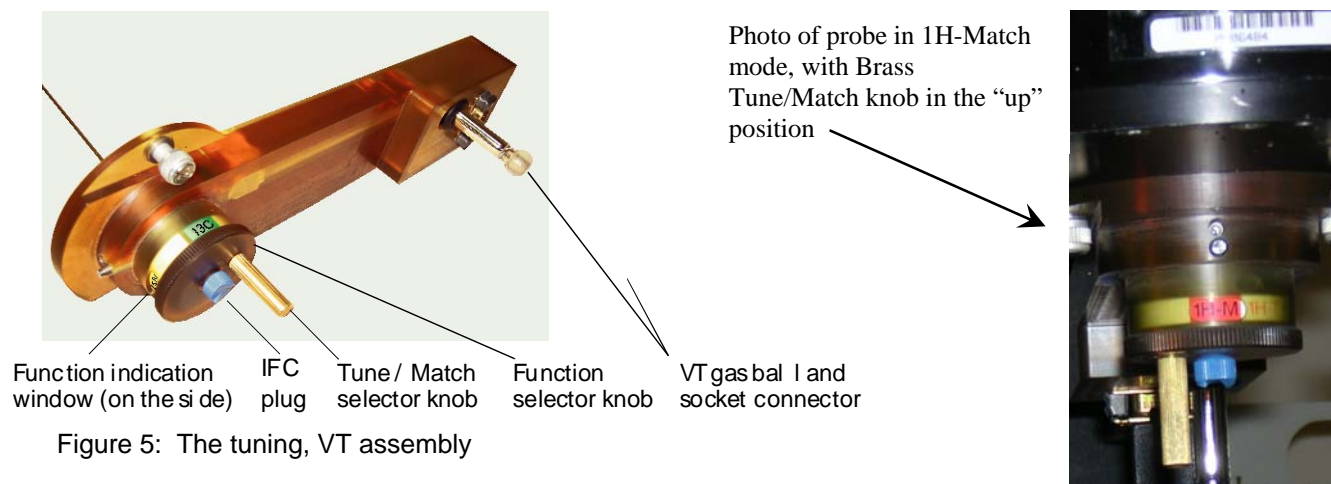

Figure 5: The tuning, VT assembly
- d. At the probe, the mechanics of tuning are different. Refer to Figure 5, which shows the tuning assembly at the bottom of the probe.
- ii. Once the “Channel” has been chosen for tuning (and the reflected power is displayed on the tune-meter), and all cabling is properly configured, the reflected power is minimized using the “Tune/Match selector knob” (Figure 5).